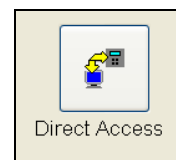

Figure 6.8.1
1. From the List of icons to the right of the “**Speed Communications**” screen select the **Direct Access** Icon (Figure 6.8.1).